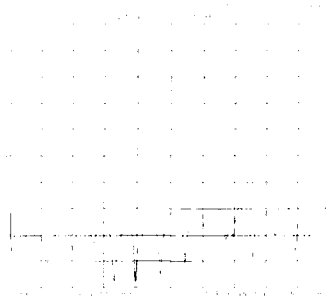

Figure 1-23. Forward Transmission Mode
- 12 Look at the measurement trace displayed on the analyzer. It should be similar to the trace displayed in Figure 1-23.